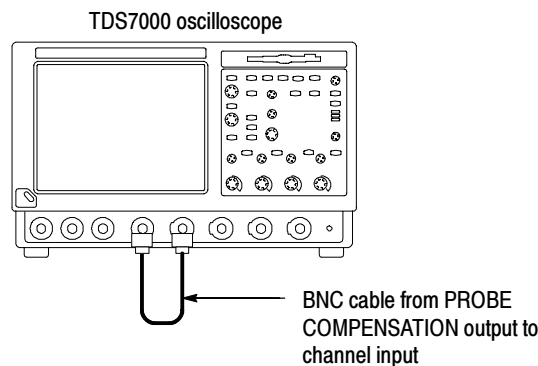

Figure 1-5: Universal test hookup for functional tests - CH 1 shown
2. *Hook up the signal source:* Connect the BNC cable from the probe compensation output to the channel input that you want to test (beginning with CH 1) as shown in Figure 1-5.